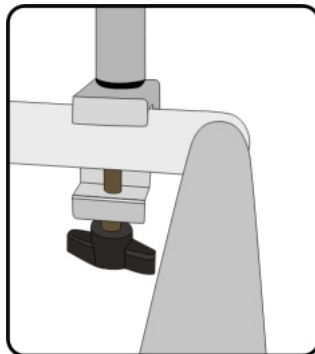

Figure 194: The Support Arm based on
1. Place the Support Arm base on the roll stand frame, as shown in Figure 194.